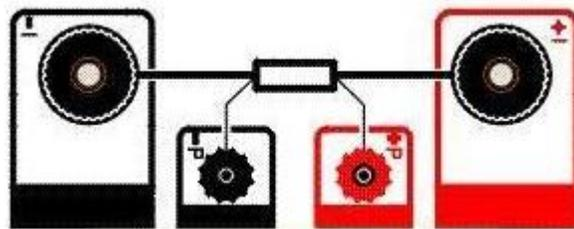

Figure 1
The MC2 utilizes a 4 wire measuring technique. The Two (2) connections on the front plate marked **+I** & **-I** are the current leads. The Two (2) connections on the front plate make **+P** & **-P** are the Potential or Voltage leads. By connecting a test specimen to the Current leads (See figure 1) and applying the Potential leads across the resistance to be measured. The points where the potential leads are connected determine the resistance reading.